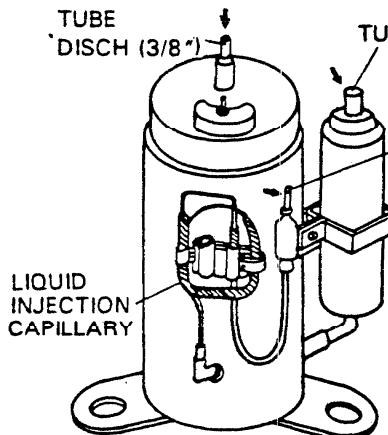

Fig. 26
- 5) With an Oxy-Acetyline torch apply heat uniformly and unbraze the joints of upper section of the Liquid Injection Capillary tube to the compressor, the upper section of the accumulator and the upper section of the compressor discharge tube respectively, and pull them free with pliers. Fig. 26 shows unbrazing points with arrows.